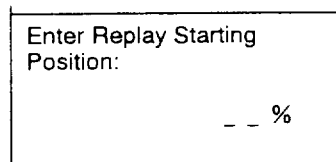

Figure 7-6 Prompt which asks where you want to start replaying data logger
- 2) Press **MENU, 8, 4** and **5**. The display should now look like Figure 7-6.